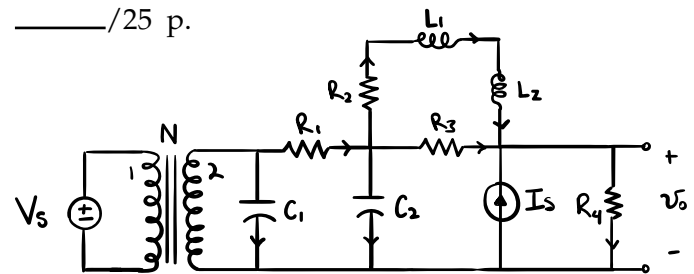

Figure exe.4: Exercise emech. part (a)
- The electronic system of Fig. exe.4, voltage and current sources, and transformer with transformer ratio  $N$ .